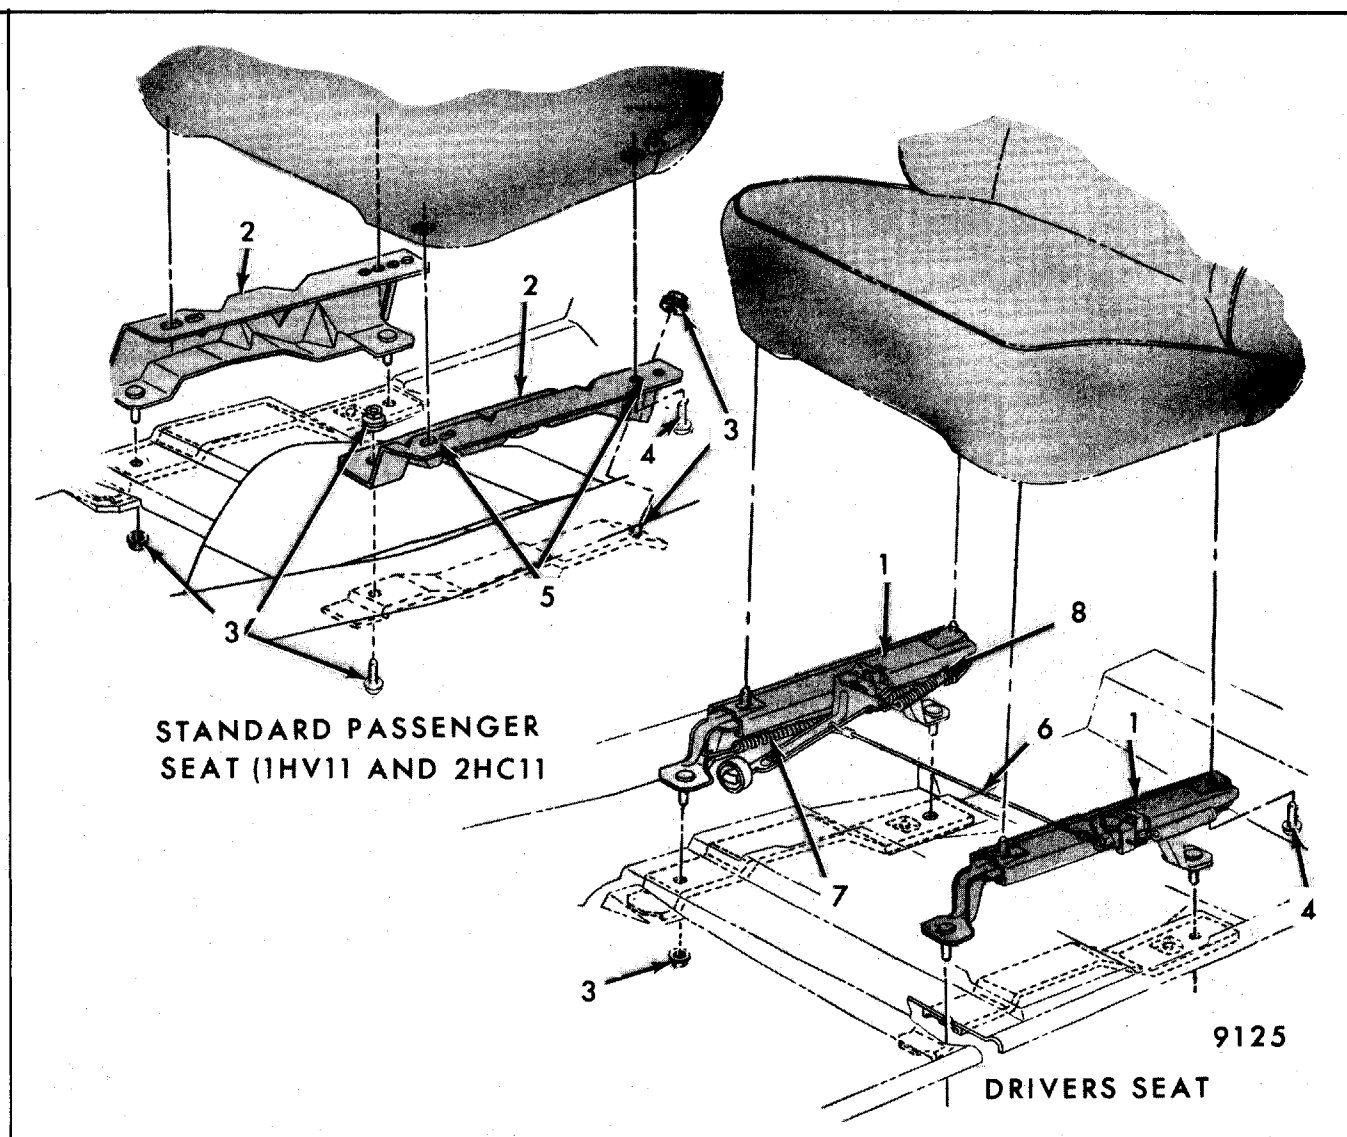

Fig. 9-17 "H" Body "11" Series Bucket Seats and Adjusters
7. Figure 9-17 "H" Body Bucket Seats